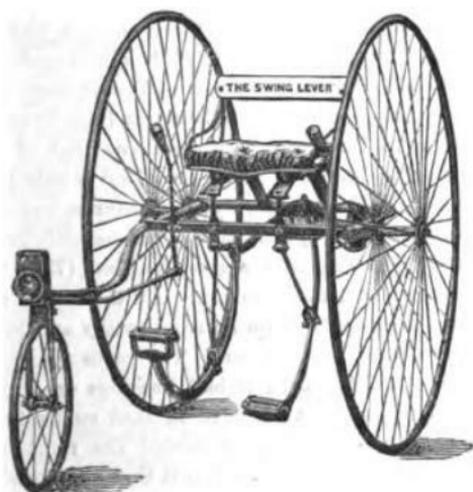

FIG. 7. THE TWO-TRACK SWING LEVER TRICYCLE.
9. *The Two Track Swing Lever Tricycle.*—Yet another description, or rather a blending of other sorts. The illustration (Fig. 7) explains it. The principle and position of the wheels is the same as that of the two track lever with the swinging levers. The front wheel is only 16in. high, and one peculiarity is that it runs very truly, and requires but little attention in the way of steering. All parts have plain, beautifully cut, and well hardened bearings. The weight is a good deal less (75lb. to 78lb.), and the seat has a back rest and easy cushion. All the machines sent out by the firm are to be fully depended on as trustworthy and sound in every respect, and deserves to be well-known. The price for the Two Track Swing Lever Tricycle is £13 10s.; if ball bearings or other extras are added, they are, of course, not included in that moderate price. The small wheel is placed either before or behind the right or left wheel, according to order, but its general position is that mentioned.